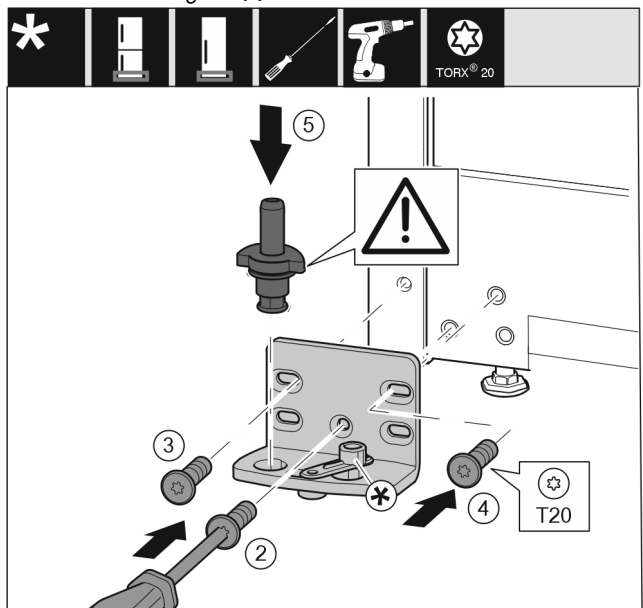

Fig. 38
- ▶ Place the swap bearing block on the other side and use a screwdriver to screw it on. Start with the screw *Fig. 38 (2)* at the bottom in the middle.\*
- ▶ Tighten screw *Fig. 38 (3)* and screw *Fig. 38 (4)*.
- ▶ Insert the bearing bolt *Fig. 38 (5)* completely. Ensure that the latching cam is pointing towards the rear.
- ▶ Place the swap bearing block on the other side and use a screwdriver to screw it on. Start with the screw (2) at the bottom in the middle.\*
- ▶ Tighten screw (3) and screw (4).\*
- ▶ Turn the closing damper connection (5) by 180°. Use screwdriver to screw it onto the other side of the swap bearing block.\*
- ▶ Insert the bearing bolt (6) completely. Ensure that the latching cam is pointing towards the rear.\*